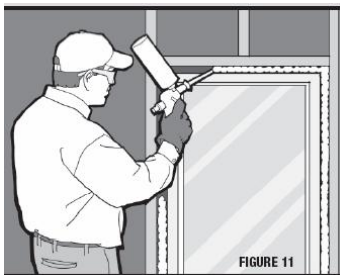

Figure 11
- 6.3.2 Starting at the header cavity on one side of the window, insert gun nozzle into gap (Figure 11).